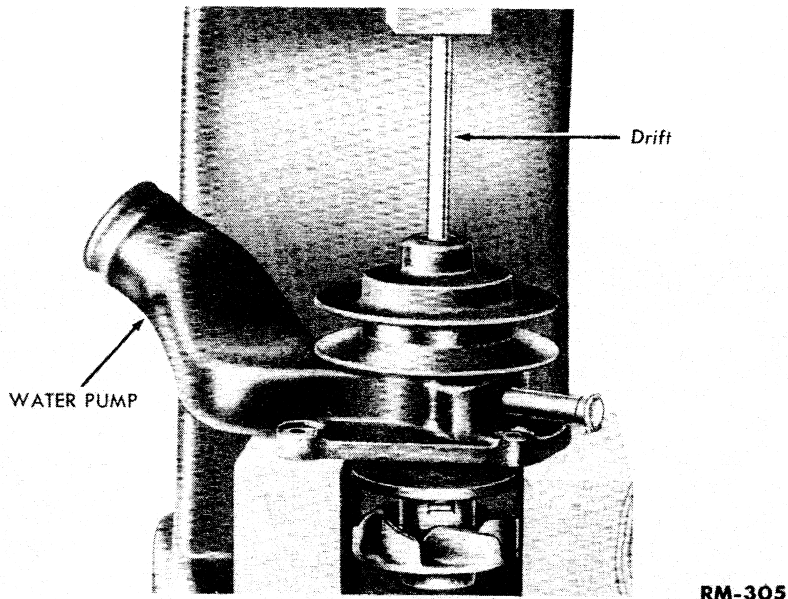
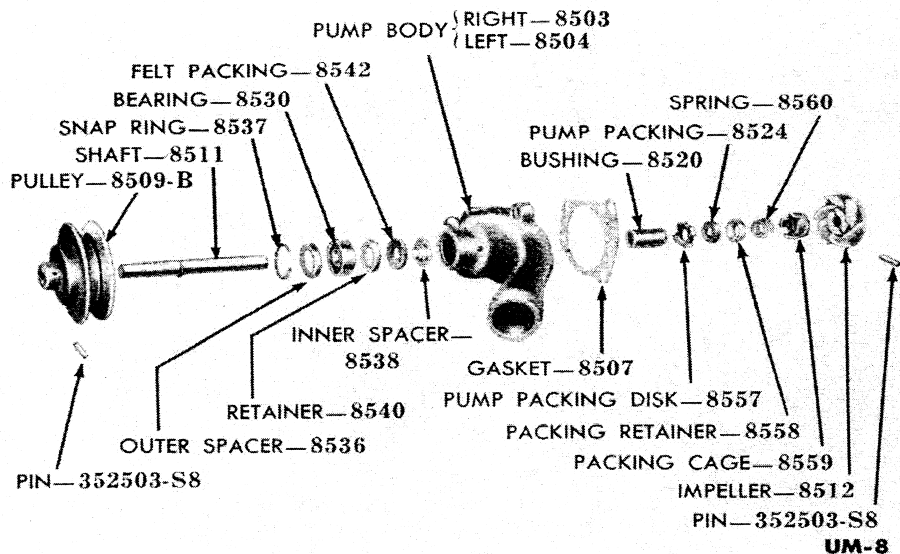

Figure 44—Pressing Impeller and Shaft Assembly Out of Pulley and Housing.
Figure 45—Water Pump, Disassembled.
a. Disassembly. Drive the pin out of the pulley and shaft with a small punch. Press the shaft assembly out of the pulley and housing (fig. 44). Remove the lock ring from the water pump housing. Working from the inner side of the housing, remove the bearing outer spacer, bearing, felt retainer, felt packing, and bearing inner spacer (fig. 45) with a suitable driver. Drive the pin out of the impeller and shaft with a small punch. Press the shaft out of the impeller (fig. 46). Remove the water pump packing cage, spring, packing retainer, packing, packing disc, and bushing from the shaft.
Install a new disc and packing on the shaft (fig. 45). Install the water pump rear packing retainer, spring cage, and impeller on the shaft. Secure the impeller on the shaft with the pin. Press the impeller and shaft assembly into the housing (fig. 47). Place a new felt washer on the inner spacer, and install the retainer on the felt washer. Install the spacer, felt washer, and retainer in the water pump housing with the retainer facing toward the front side of the housing. Pack the bearing with water pump grease, and install the bearing in the housing. Install the water pump bearing outer spacer and snap ring in the housing. Install the water pump pulley on the shaft, and secure it to the shaft with the pin.